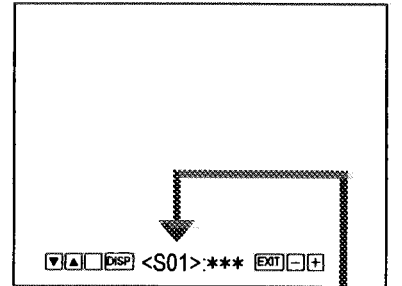

Fig.5
- ① Press the **PHASE** key from the <BLOCK SELECT> screen (SERVICE MAIN MENU).
- ② Then displays the SIGNAL BLOCK adjustment screen (Fig.5)
- ③ The select item is shown by the SERVICE Number at the lower of the screen.
- ④ Key control operation are displays as same as the screen lower. The key operations of this mode are following as shown below.